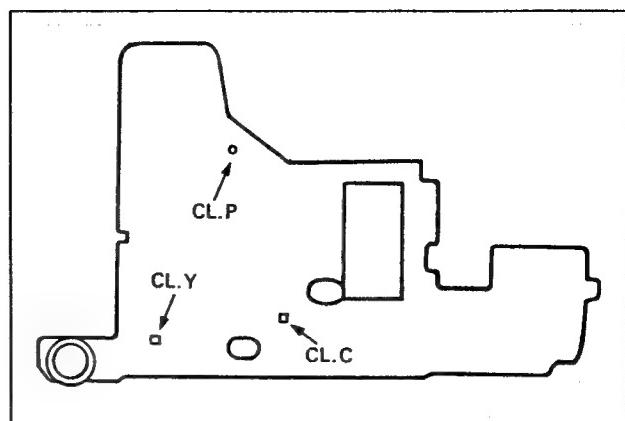

Fig. 3-21.
- Short-circuit VD1 CL. Y checker land to ground, and VD1 CL. P checker land to ground, with a jump lead (see Fig. 3-21).
- Connect a 0.01 μF capacitor across Pin ⑪ and Pin ⑯ (GND) of VD1 IC201.
Setup : Short-circuit VD1 CL. Y checker land to ground, VD1 CL. C checker land to ground, and VD1 CL. P checker land to ground, with a jump lead (see Fig. 3-21).
Setup : Short-circuit VD1 CL. Y checker land to ground, and VD1 CL. C checker land to ground, with a jump lead (see Fig. 3-21). Connect a 0.01 μ F capacitor across Pin ⑪ and Pin ⑯ of VD1 IC201.